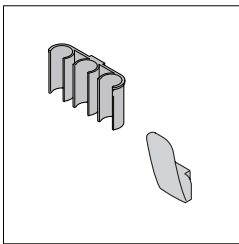

Fig. 1
- The **BLUE CLEAN POWER WASHER** requires some minor assembly, the accessory holder and the electric power cord holder. (Fig. 1) Slide these pieces onto the grooves on the either side of the power washer. Slide the handle onto the front of the power washer. Secure the handle to the power washer with the screws provided.